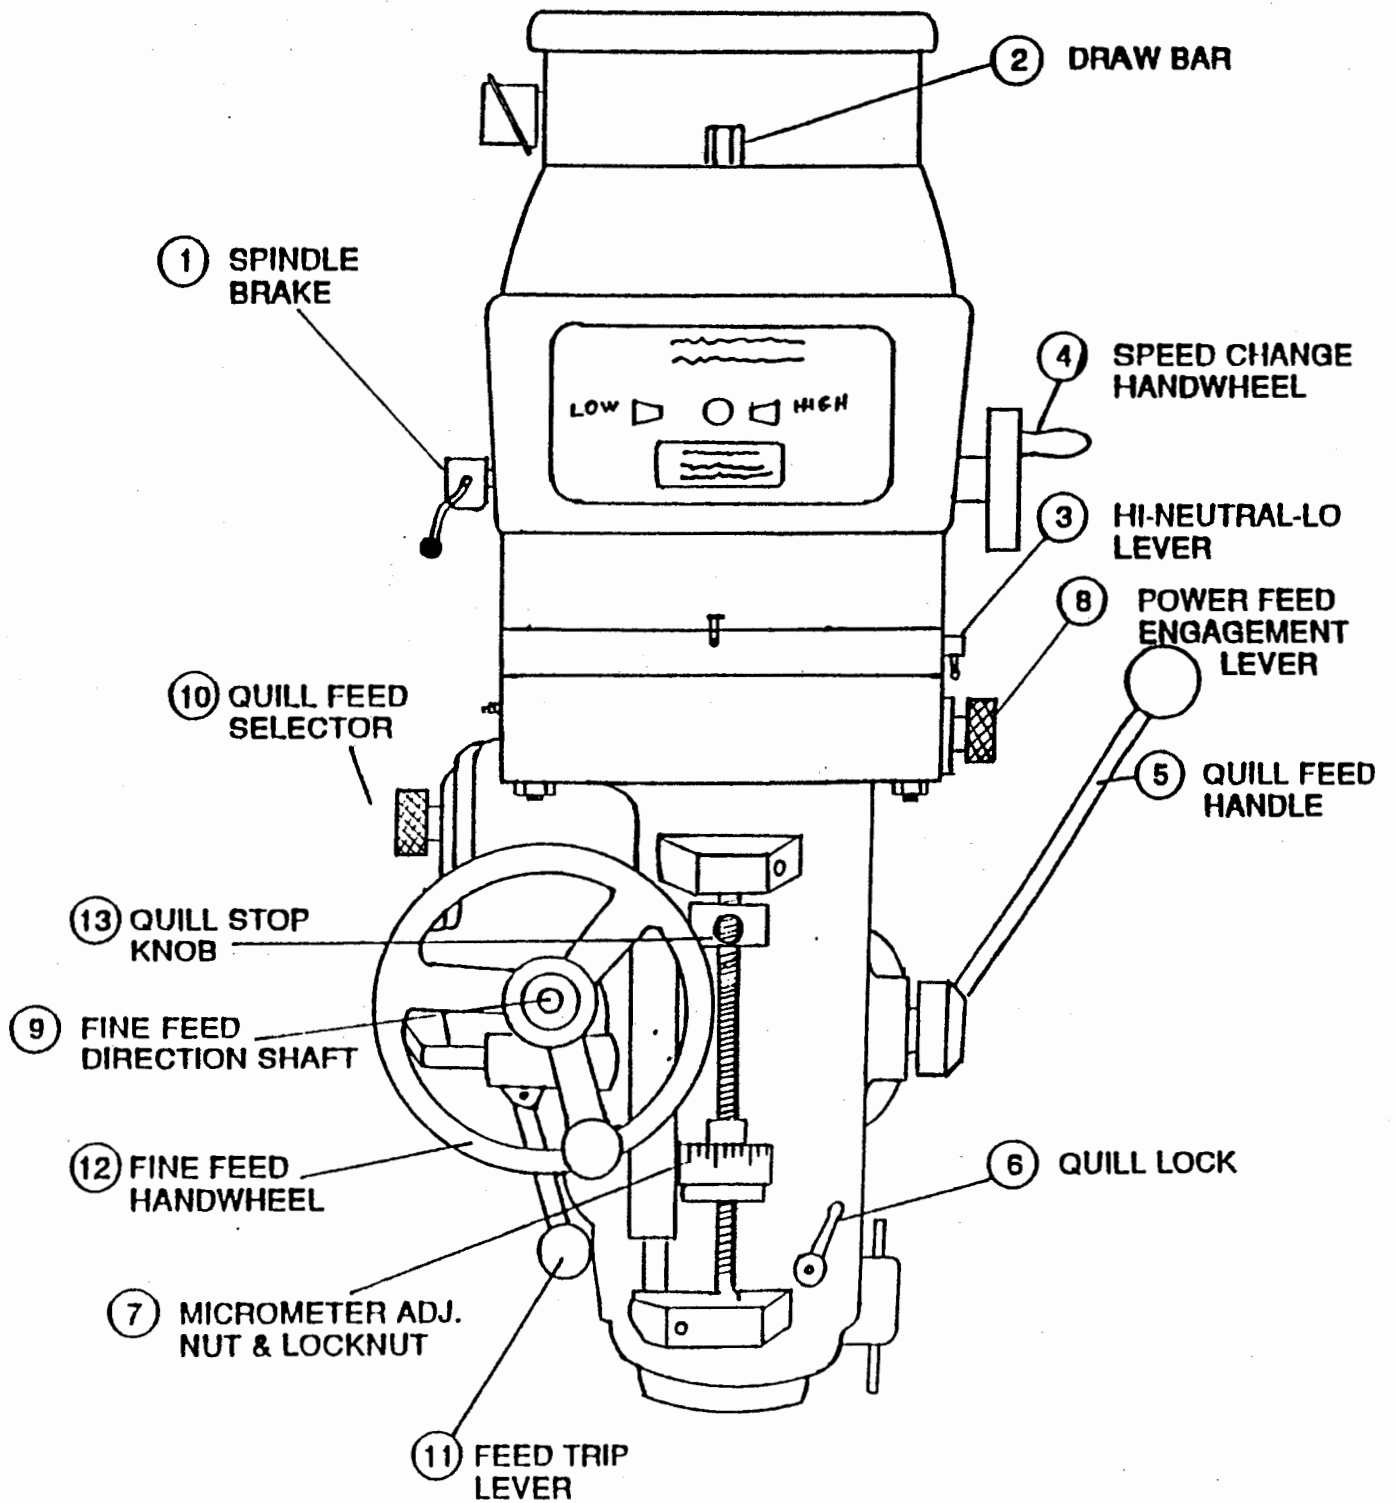

Figure 5.2
### **5.3 Spindle Brake (Item 1, Fig 5.2)**
## 5.4 Draw Bar (Item 2, Fig 5.2)
## 5.5 Changing Speeding: High-low-Neutral Lever (Item 3, Fig 5.2)
## **5.6 Changing Speeds - Variable Speed (Item 4, Fig 5.2)**
## **5.7 Operating the Quill (Item 5 & 6, Fig 5.2)**
## **5.8 Adjusting the Quill Stop (Item 7, Fig 5.2)**
### 5.9.1 Power Feed Engagement Lever (Item 8, Fig 5.2)
### 5.9.2 Fine Feed Direction Shaft (Item 9, Fig 5.2)
### 5.9.3 Quill Feed Selector (Item 10, Fig 5.2)
#### **5.9.4 Feed Trip Lever (Item 11, Fig 5.2)**
The Feed Trip Lever stops the quill feed motion when the quill stop knob (Item 13, Fig 5.2) reaches the quill micrometer dial.
- 3. Rotate the Fine Feed handwheel (Item 12, Fig 5.2)**